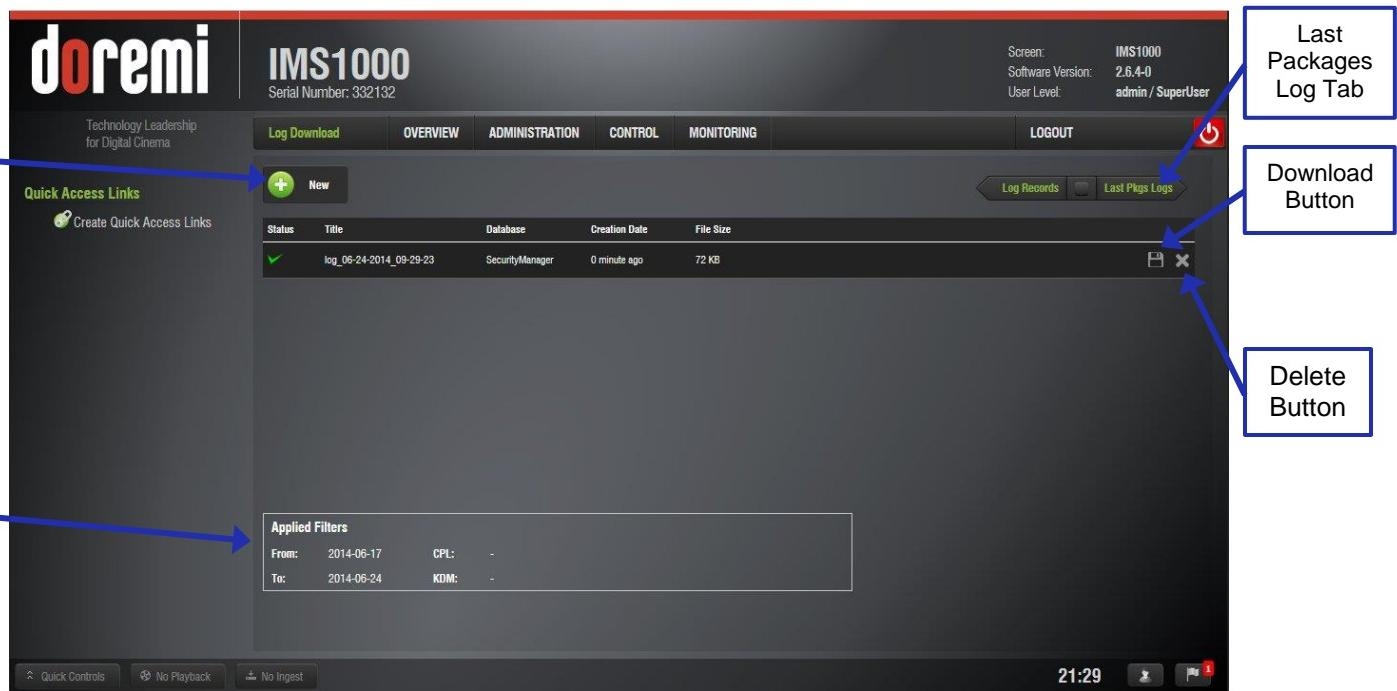
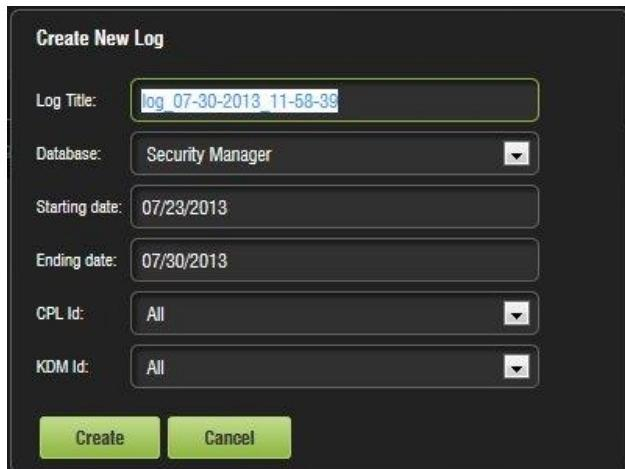

Figure 330: Log Download
Figure 331: New Log Window
- Click on the New button (Figure 330). Input the correct password, if necessary. The New Log window will appear (Figure 331).
- Click the Create button or Cancel to cancel the operation (Figure 331).
- To download the log, highlight the log with the mouse and click on the Download icon that appears (Figure 330).
To delete a log, highlight the log and click on the X that appears on the right (Figure 330).
Highlighting a log will also reveal the applied filters for the log in the bottom of the screen (Figure 330).
To access the Last Packages Logs tab, click on the green arrow on the right hand side of the GUI in the Log Records or Log Download tabs (Figure 330).